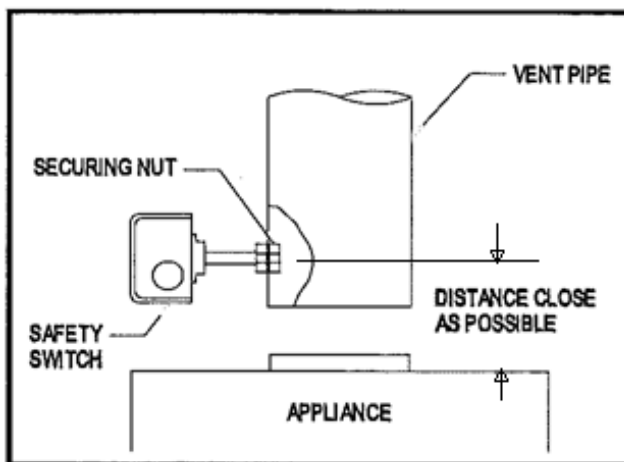

Figure 1 - Illustration Granby Industries
- 4) Tighten the other securing nut onto the pipe as far as possible (Figure 1).
- 6) Install the securing nut on the safety switch tube, which protrudes into the flue vent pipe. Tighten the nut securely (Figure 1).